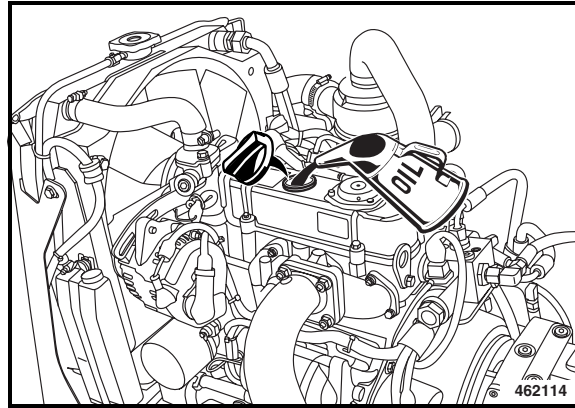

Fig. 134
- Fill in new engine oil (Fig. 134).